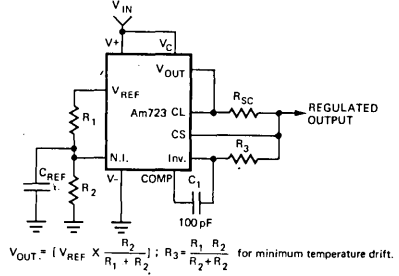

Figure 3
2. Unless otherwise specified, $T_A = 25^\circ\text{C}$, $V_{IN} = V^+ = V_C = 12\text{ V}$, $V^- = 0\text{ V}$, $V_{OUT} = 5\text{ V}$, $I_L = 1\text{ mA}$, $R_{SC} = 0$, $C_I = 100\text{ pF}$, $C_{REF} = 0$ and divider impedance as seen by error amplifier $\leq 10\text{ k}\Omega$ when connected as shown in Fig. 3.